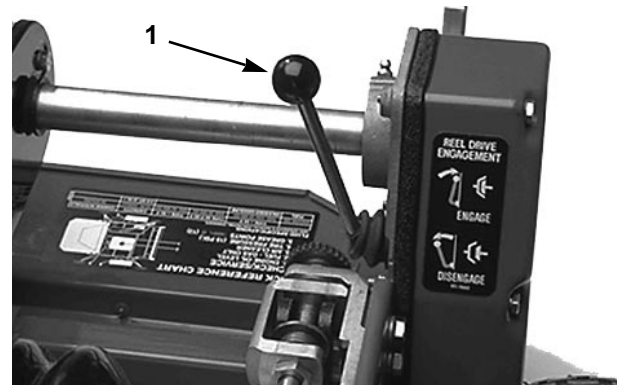

Fig. 14
Reel Drive Engagement Lever (Fig. 14)—Located on the right front corner of the machine. The lever has two positions: ENGAGE and DISENGAGE. Pull up on the lever to engage the reel or push down on the lever to disengage the reel.
1. Make sure the traction (Fig. 13) and reel drive (Fig. 14) levers are in the DISENGAGED position.